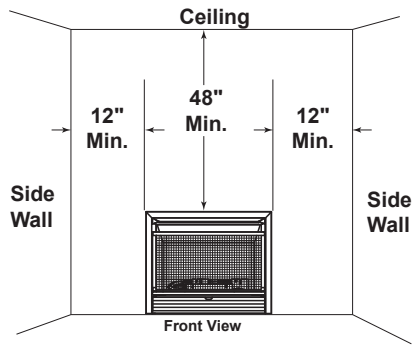

Figure 5 - Minimum Clearances to Wall and Ceiling
**WARNING:** You must maintain the minimum clearances shown in Figure 5. If you can, provide greater clearances from floor, ceiling, and joining wall. Measure from outermost point of heater.